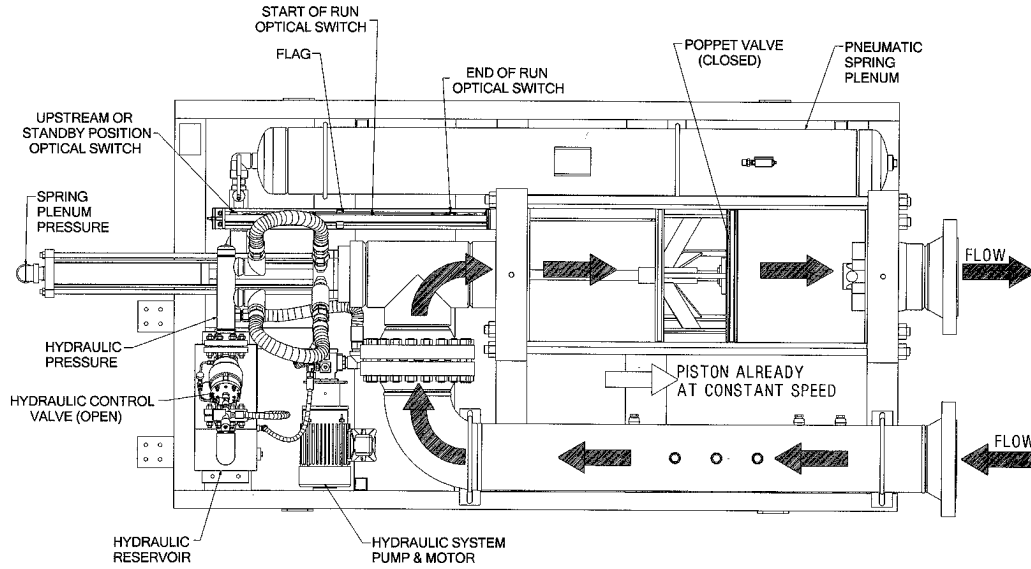

Figure 3-3. Proving
3. As the measurement piston moves downstream, the optical volume switches are ‘tripped’ by the flag connected to the piston (Figure 3-3). These volume switch signals are instantly sent to the operating computer for calculations discussed in Section 4-6.